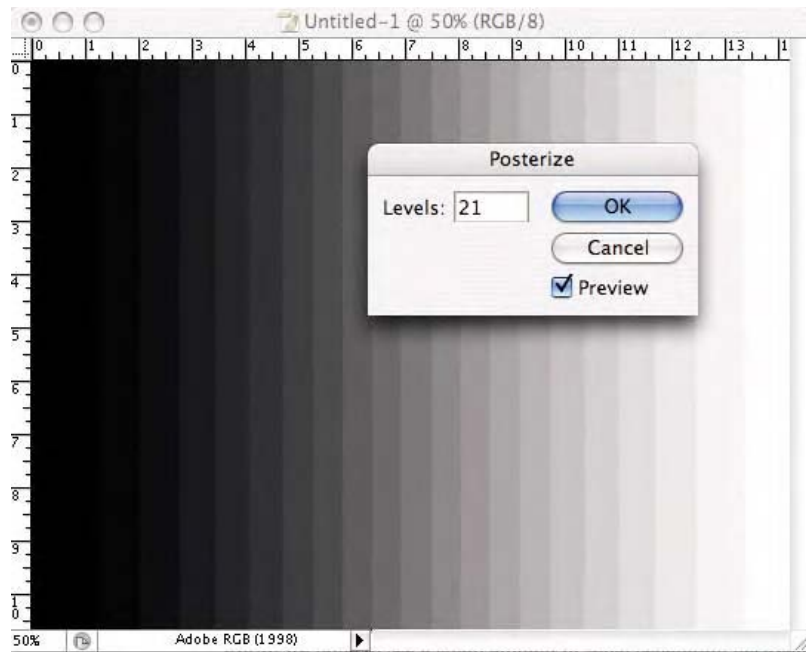

Fig. 9-12-6 When the **Posterize** command appears, type **21** in the **Levels** field and the gradient will be divided into a 21-step wedge.
6. Choose **Image-Adjust-Posterize**. When the dialog box appears, enter **21** in the **Levels** field as seen in Fig. 9-12-6 and click **OK**. You have created a 21-step wedge with equal squares of tone running from black to white. Save the document if you wish.